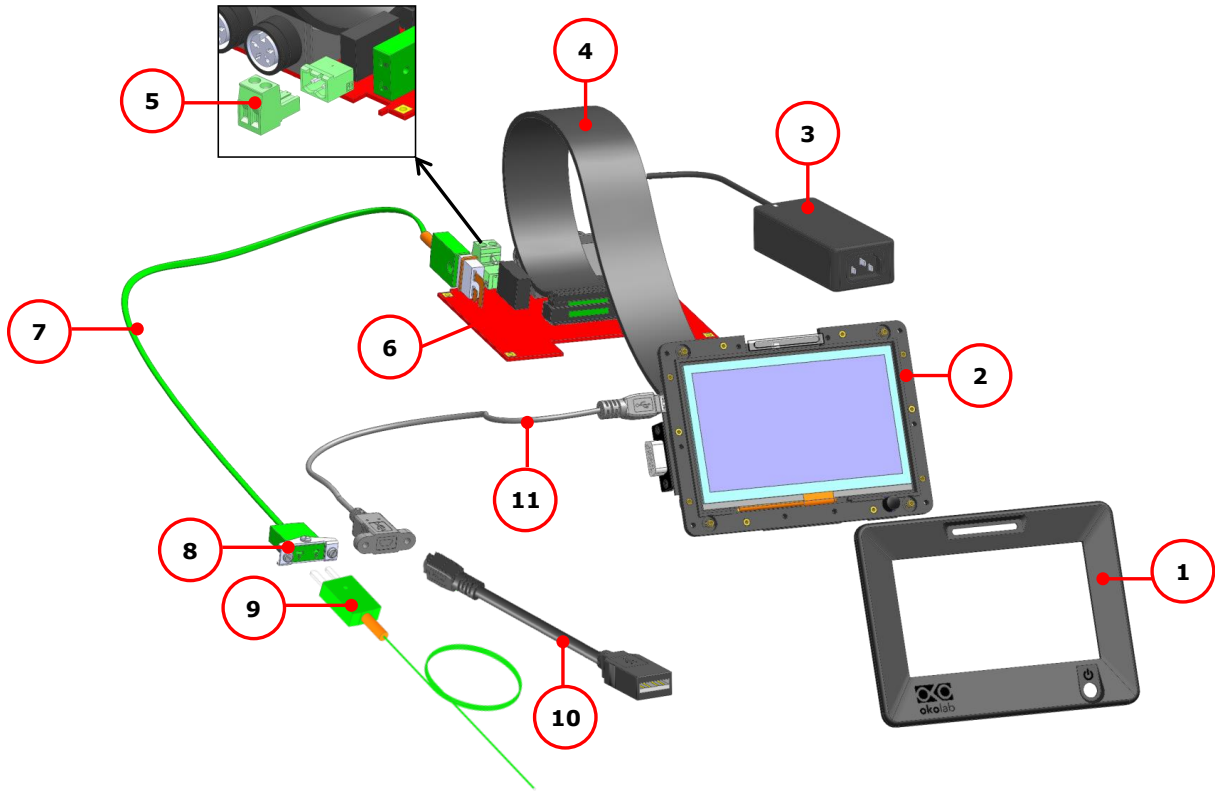
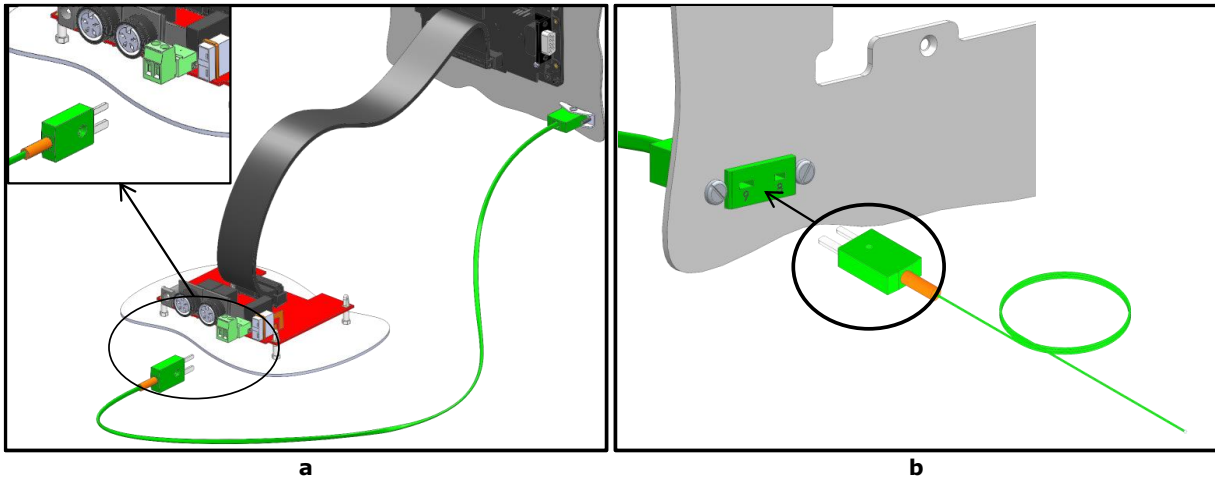

Figure 79.H401-T-CONTROLLER-OEM – Components.
Figure 87. T sensor connection (a) Extension thermocouple cable connection to the control board (b) T sensor connection to the panel
- 1 **Touchscreen display bezel.** See pointer 1 in Figure 79.
- 2 **Touchscreen display.** See pointer 2 in Figure 79.
- 3 **Power feeder and power cord.** 24V DC-60 W power feeder. See pointer 2 in Figure 79.
- 4 **Communication cable.** See pointer 4 in Figure 79. (Flat Shielded Cable 24 way (for example Cod.523-151-2831-024 on [www.mouser.it](http://www.mouser.it)).
- 5 **Alarm screw terminal.** Contact closure alarm. See pointer 5 in Figure 79.
- 6 **Control board.** . See pointer 6 in Figure 79.
- 7 **CAB 110.** Panel mount extension thermocouple cable (pointer 7 in Figure 79). To connect the T sensor to the control board.
- 8 **Assembly latch.** To fix the extension thermocouple cable connector to the panel. See pointer 8 in Figure 79.
- 9 **T Sensor.** Fine gauge immersible thermocouple, which can be used to calibrate the heating devices connected to the Controller and to meter temperature, as needed. See pointer 9 in Figure 79.
- 10 **MINI-USB-OTG.** Mini USB OTG cable to connect a USB drive to the H401-T-CONTROLLER-OEM for data download. See pointer 10 in Figure 79.
- 11 **Ultra-Thin Mini-B Extension Cable.** Panel mount extension for MINI-USB-OTG connection to connect the MINI-USB-OTG to the Control board. See pointer 11 in Figure 79.
H401-T-CONTROLLER-OEM is equipped with a T sensor and a panel mount extension thermocouple cable, pointer 6 and 7 in Figure 79, respectively. To use the T sensor, it is necessary to use CAB 110, (pointer 6 in Figure 79) between the panel and the control board. To do so, follow the instructions below:
3. Connect the extension thermocouple cable (pointer 6 in Figure 79) to the control board as shown in Figure 87(a).
4. Connect the T sensor (pointer 7 in Figure 79) to the panel as shown in Figure 87(b).
To use the MINI-USB port of the Controller, it is necessary to mount the Ultra-Thin Mini-B Extension Cable, pointer 9 in Figure 79, between the panel and the display. To do so, follow the instructions below: